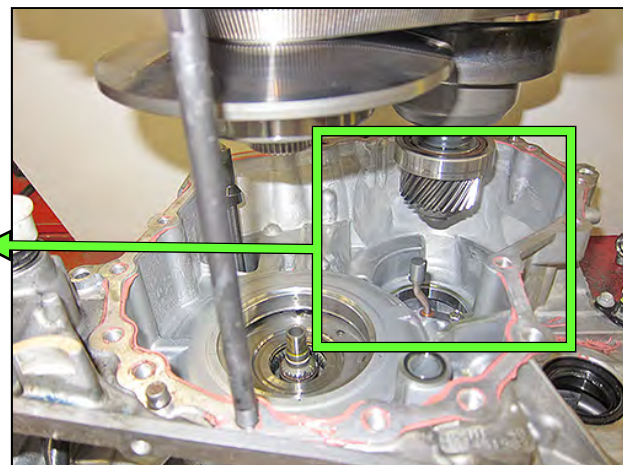
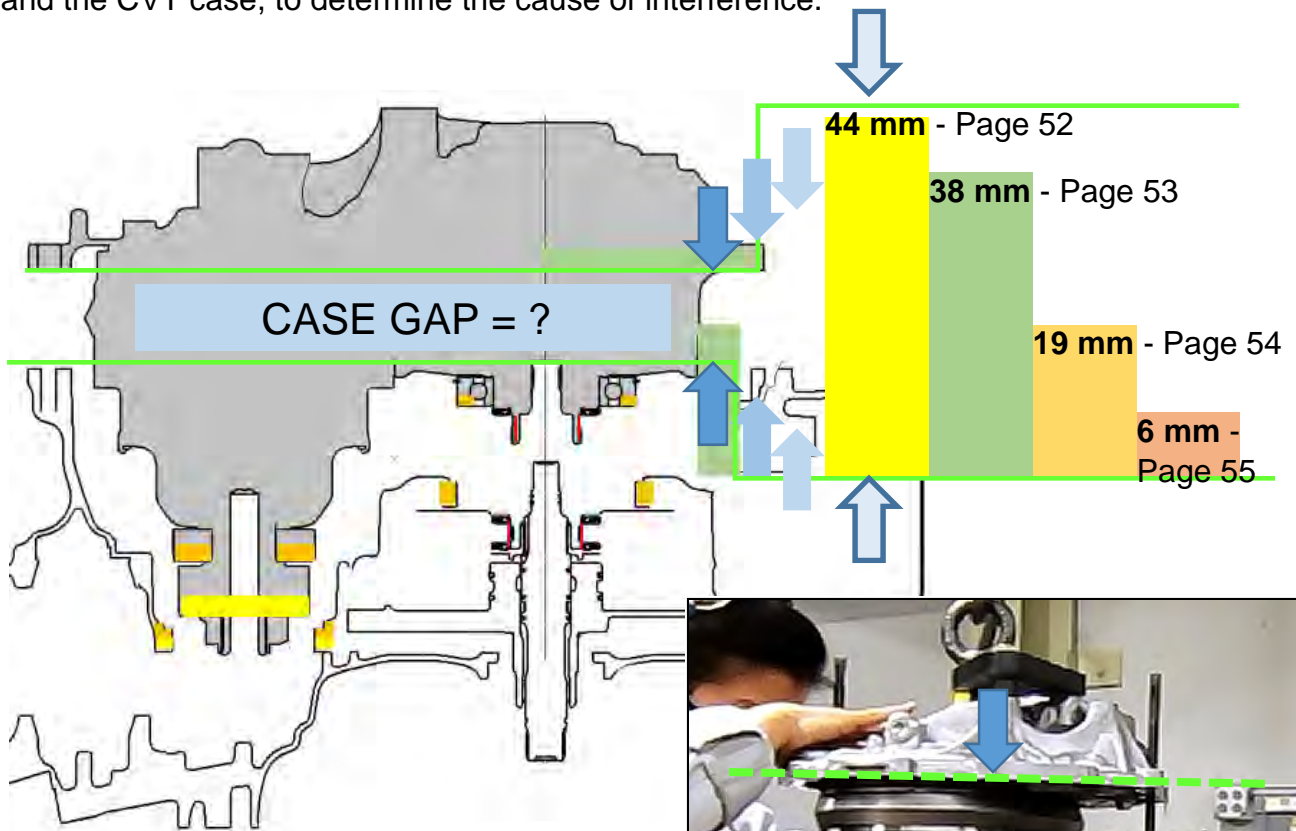
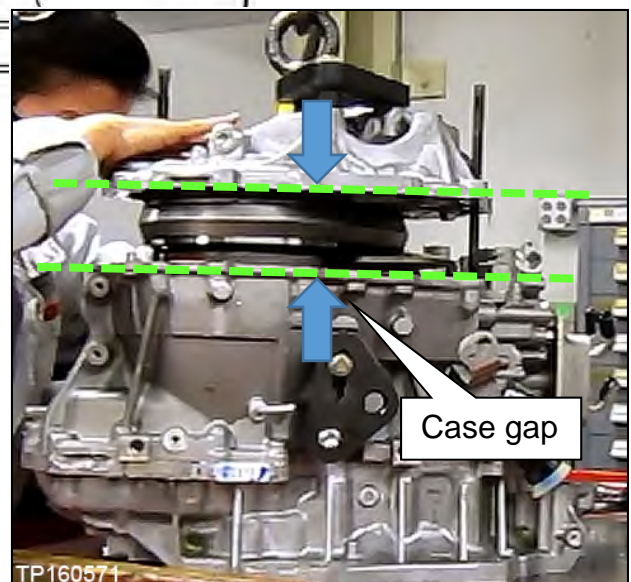

Figure 105
Figure 106
Figure 107
**HINT: Do NOT** allow the output gear to contact the lubrication tube when the side cover is positioned over the guide pins (Figure 105 and Figure 106).
Use the “visual gap size” below (Figure 106 and Figure 107), between the sub-assembly and the CVT case, to determine the cause of interference.